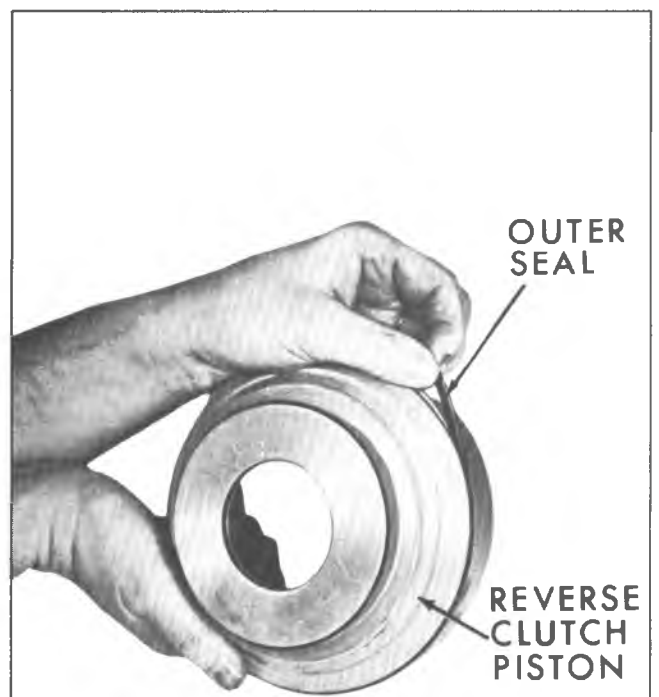

Fig. 48M--Removing Low and Reverse Clutch Piston Outer Seal
24. Remove low and reverse clutch piston outer seal (fig. 48M).